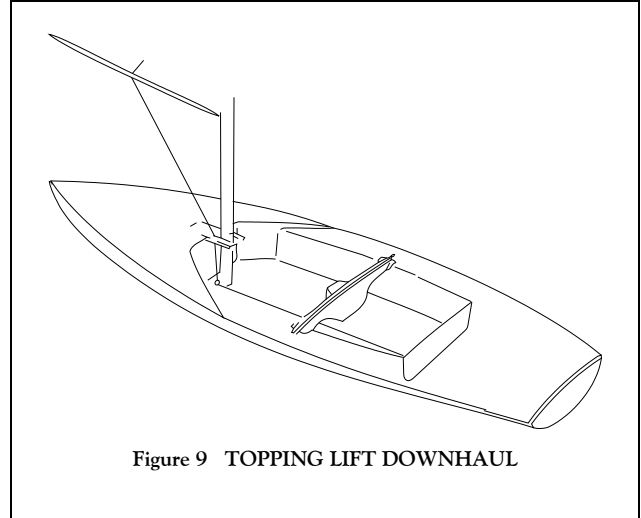

Figure 9 TOPPING LIFT DOWNHAUL
- A means of retracting the topping lift when you take down the spinnaker pole. This system should incorporate a stop that keeps the pole from lifting too high in heavy air on a tight reach. As you won't need to adjust it otherwise, you can simply attach the wire downhaul to a shock cord. Figure 9 shows such an arrangement.